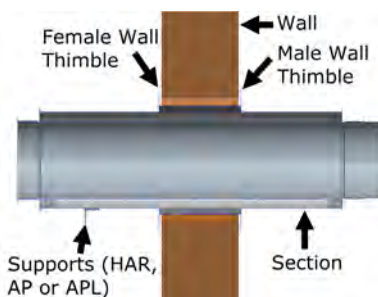

Figure 59c - Supports for Chimney passing through a Wall
Chimney that penetrate wall have to be supported at least on one side of the wall, supporting the section that penetrates through the wall. It can either be supported by bracing a Half Angle Ring (HAR), Anchor Plate (AP), or Anchor Plate Length (APL) See Figure 59c